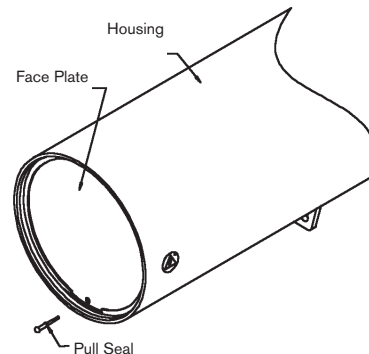

FIGURE 16 Inserting the Pull Seal
3. Insert the *long end* of the pull seal into the breather hole starting from the front side of the face plate. See FIGURE 16.